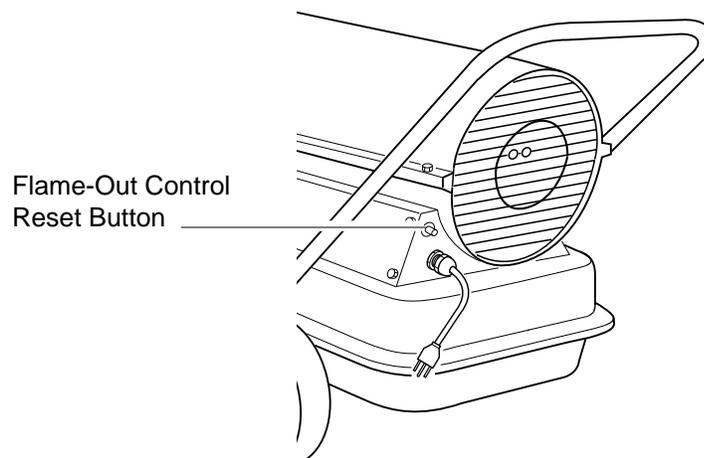

Figure 5 - Flame-Out Control Reset Button
Heater will start when power cord is plugged into outlet. If not, push in flame-out control reset button (see Figure 5).
5. Adjust thermostat to desired setting. If heater does not start, thermostat may be set too low. Turn thermostat knob to higher position to start heater. If thermostat is in HIGH position and heater still will not start, push in flame-out control reset button (see Figure 5).